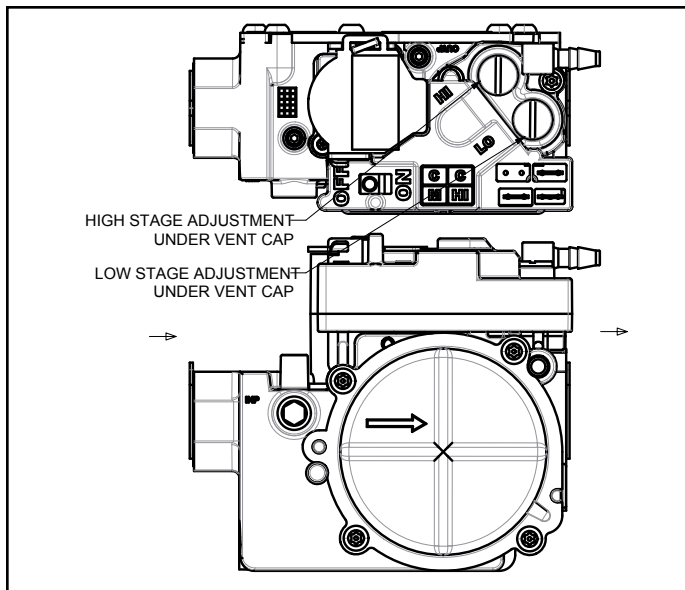

Figure 6. Gas Valve
3. Slide the gas valve switch to the “ON” position (see Figure 6).
2. Slide the gas valve switch to the “OFF” position (see Figure 6).
pressure and input. See Figure 6 to assist in locating the regulator on the gas valve.
1. Slide the gas valve switch to the "OFF" position (see Figure 6).
4. Slide the gas valve switch to the "ON" position and initiate a call for heat. If manifold pressure must be adjusted, the gas valve has separate adjusting screws for first stage (LO) and second stage (HI) (see Figure 6). Turn the adjusting screws clockwise to increase pressure and input; turn counterclockwise to decrease